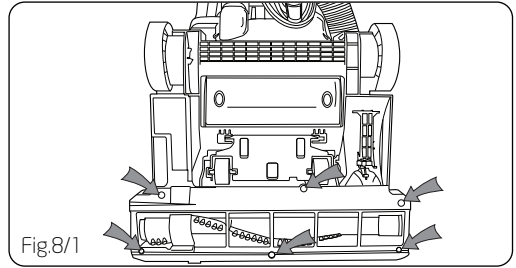

Fig 8/1
1. Unwrap hose from caddy. Twist and unlock to remove clogs. Clean out hose with a broom handle. Check access door on back of cleaner (near hose end). Remove the seven (7) screws and check for obstruction (Fig.8/1).